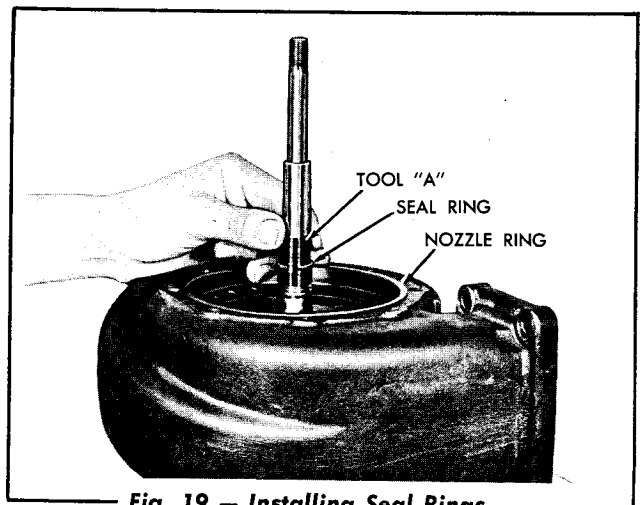

Fig. 19 — Installing Seal Rings — Turbine End
- a. Clamp turbine housing in vise with exhaust flange down as shown in Fig. 19.